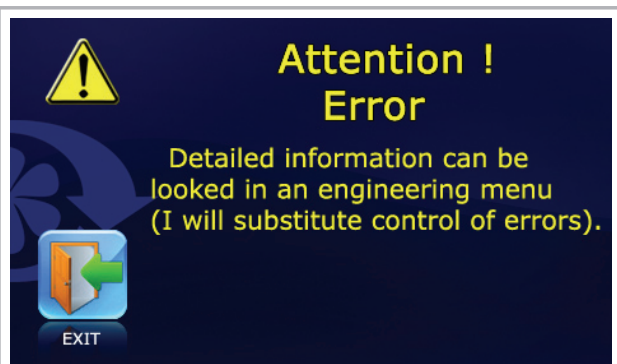

Fig. 40. Error message
■ In case of any operation errors the remote controller will display the error message (fig. 40).
■ Access to the **ERROR LIST** is also possible from the engineering menu (refer item 15).